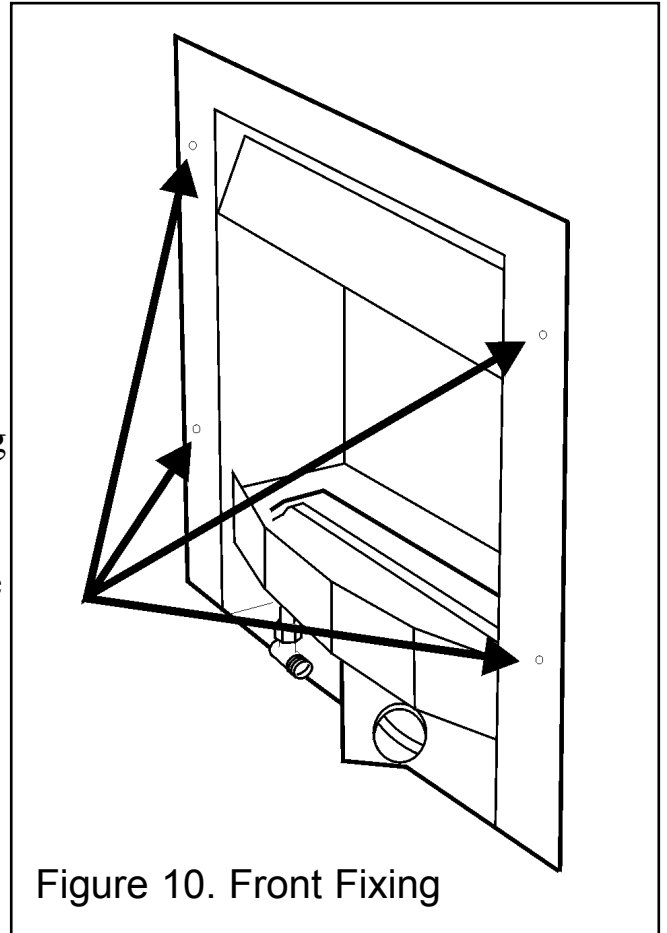

Figure 10. Front Fixing
3. Mark the fireplace front surround through the four fixing holes in the side flanges of the hotbox. See figure 10.